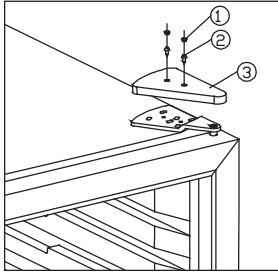
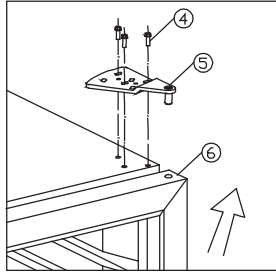
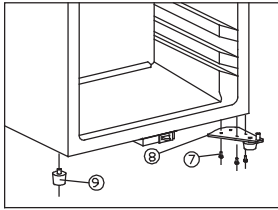
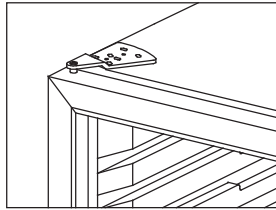

Abb. 5.1
Abb. 5.2
Abb. 5.3
Abb. 5.4
- Remove the rubber plugs (1). See fig. 5.1
- Remove the screws (2) and take off the hinge cover (3)
- Remove the 3 screws (4) which hold the top hinge and lift off the top hinge (5) **SUPPORT THE DOOR!** See fig. 5.2
- Lift off the door (6) and place the cabinet on the back
- Remove the 3 screws (7) which hold the bottom hinge (8) . See fig. 5.3
- Dismount the cabinet foot (9) from the cabinet and remount it on the opposite side
- Mount the bottom hinge in the left side using the 3 screws (7)
- Mount the top hinge, hinge cover, and rubber plugs. See fig. 5.4.